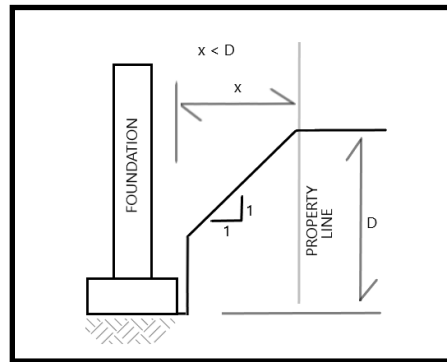

Figure 3 - Over Steepen Slope Configurations
If the minimum excavation requirements discussed above can not be met or if the design of the building can not be revised to meet the minimum requirements, then the excavation configurations illustrated in Figures 3 to 5 may be suitable.
- Figures 3, 4, and 5 a may be acceptable with the involvement of a registered design professional.